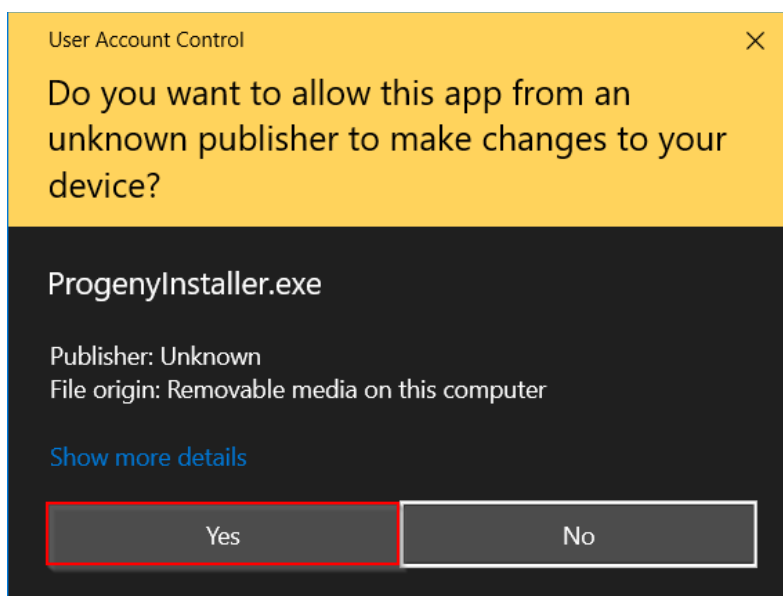

Figure 3. The User Account Control pop-up window.
- A “User Account Control” pop-up window appears confirming your choice to make changes to your device. Click “Yes.” See Figure 3 below.